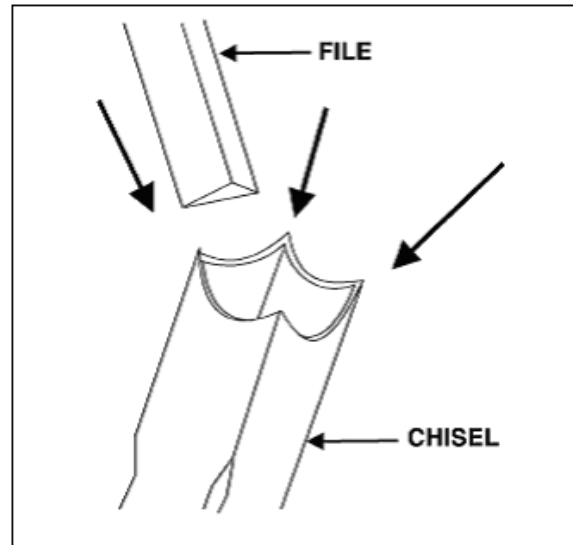

Fig 10
3. Use a small, triangular, smooth file to relieve the inner corners of the chisel. See Fig.10.